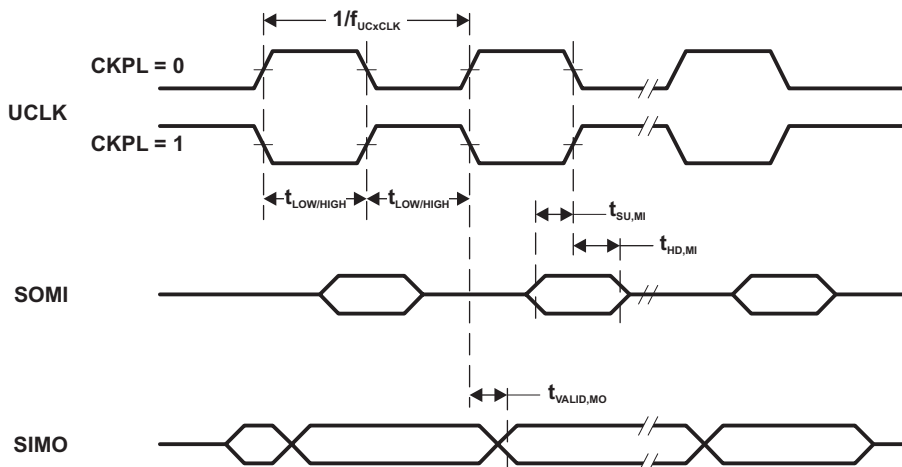
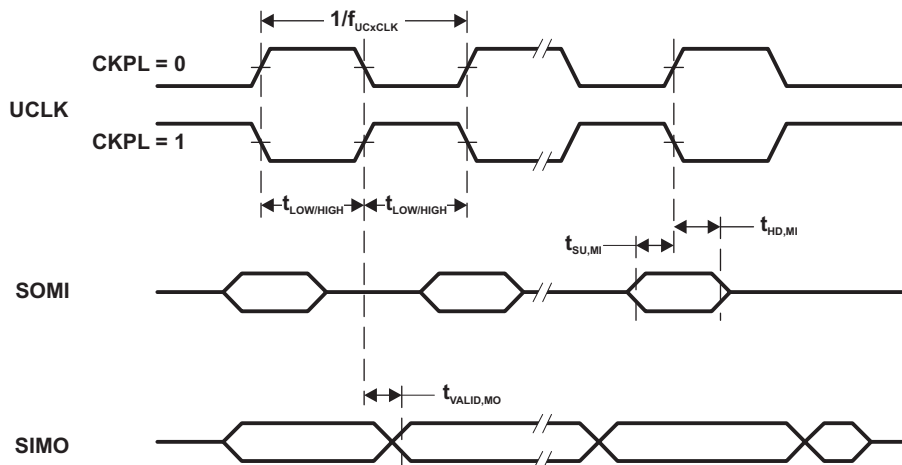

Figure 5-10. SPI Master Mode, CKPH = 0
Figure 5-11. SPI Master Mode, CKPH = 1
- (2) Specifies the time to drive the next valid data to the SIMO output after the output changing UCLK clock edge. Refer to the timing diagrams in Figure 5-10 and Figure 5-11.
- (3) Specifies how long data on the SIMO output is valid after the output changing UCLK clock edge. Negative values indicate that the data on the SIMO output can become invalid before the output changing clock edge observed on UCLK. Refer to the timing diagrams in Figure 5-10 and Figure 5-11.